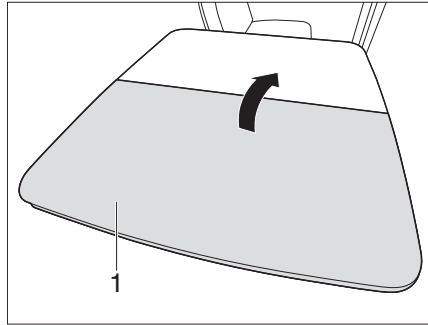

Fig. 104 Fold in the folding table
- Fold in the table half (Fig. 104,1).